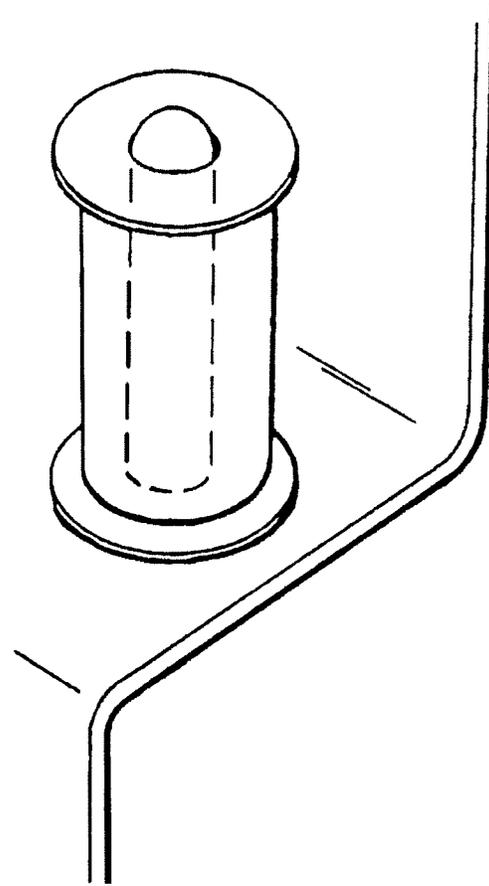

Figure 5-5. Vertical Wire Roll Mount
- e. Vertical wire or solder roll mounts (Figure 5-5) are made by cutting a dowel or broom handle to the appropriate length and securing from underneath with a screw.